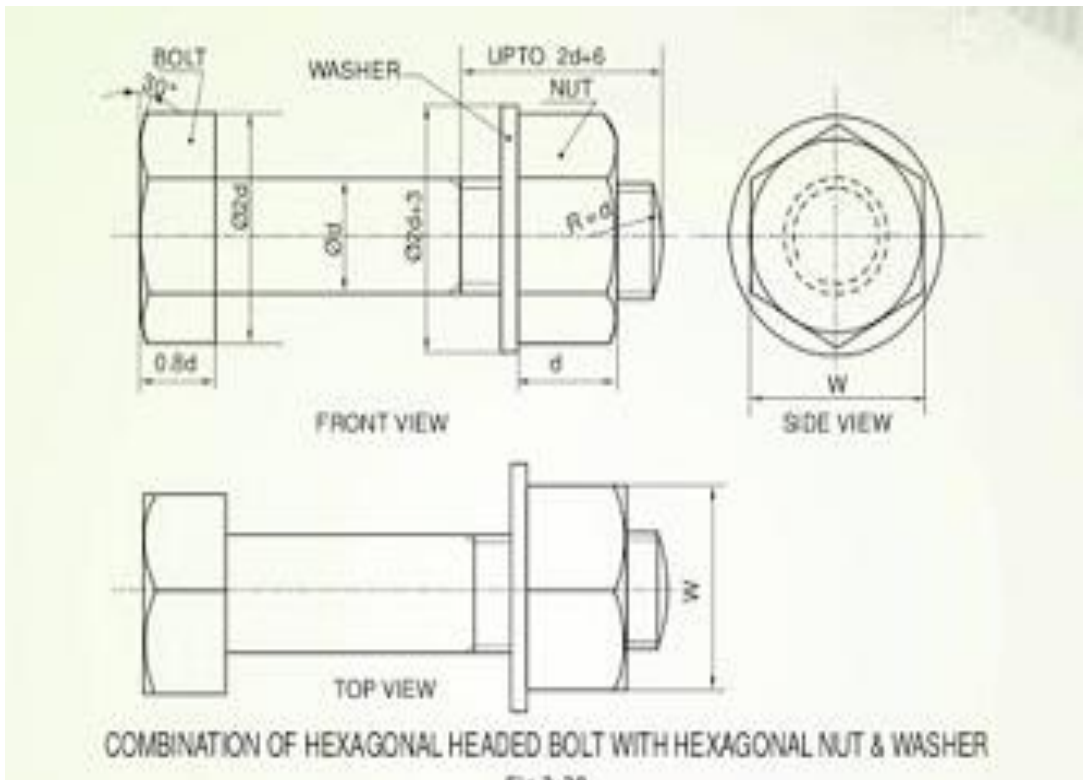

Figure10.2.9. : Hexagonal headed bolt with hexagonal Nut and washer:
10.2.4. Hexagonal headed bolt with hexagonal Nut and washer: Figure 10.2.9 shows the projections of hexagonal headed bolt with hexagonal nut and washer.